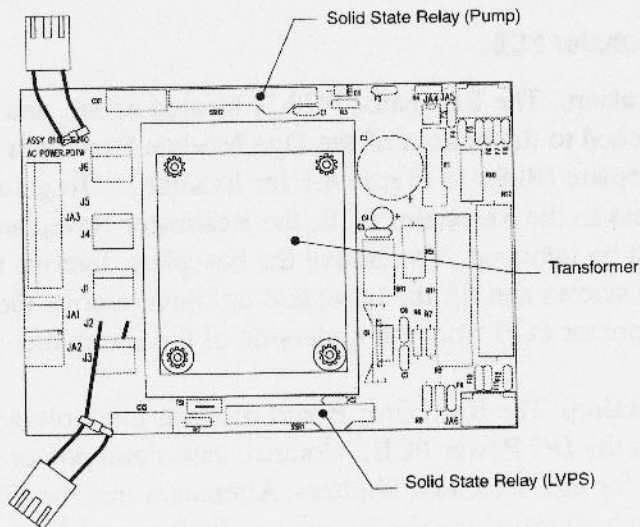

Figure 5.5: AC Power PCB
**Function.** The microprocessor for the Dye Module is located on the CPU PCB. (See Figure 5.5.) Through it, the system functioning is monitored and controlled, and diagnostic information is maintained. All signals to and from the microprocessor travel via either the Mother Board or the J2 multicolored cable to the DC Power PCB.
**Function:** The AC Power PCB performs several functions (See Figure 5.5):